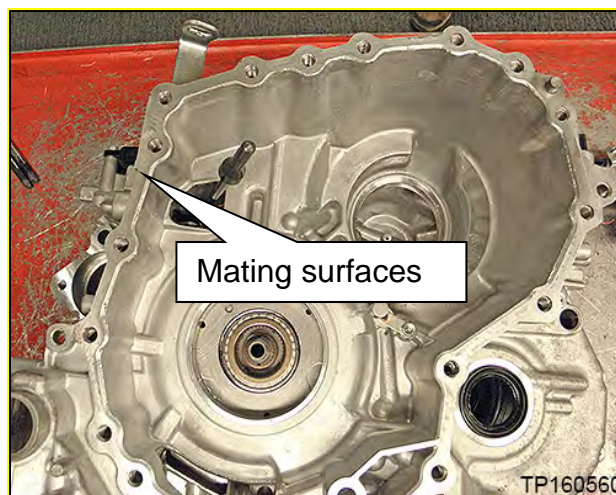

Figure 84
- Reinstall all six (6) original bolts into the old sub-assembly.
65. Thoroughly clean the mating surfaces of the CVT case (Figure 84) that the sub-assembly was just separated from (a plastic scraper can be used).